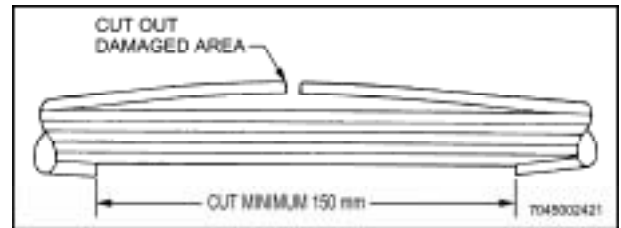

Figure 5-2 Removing Damaged Area
- Cut out the segment of wire with conductor or insulation damage. If a jumper wire is required, cut out at least 15cm of the damaged wire to allow room for splicing (Figure 5-2).